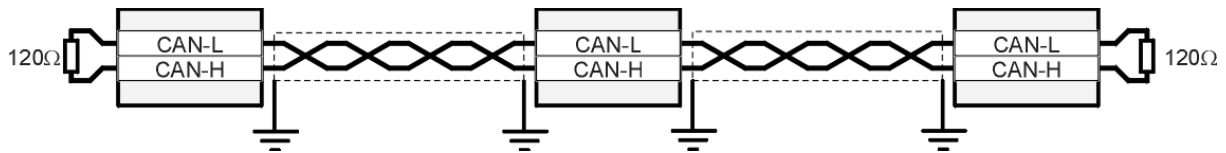

Figure 3.2: Cabling (schematically)
- All nodes of a network are principally connected in series, so that the CAN cable is looped through all controllers (see Figure 3.2).